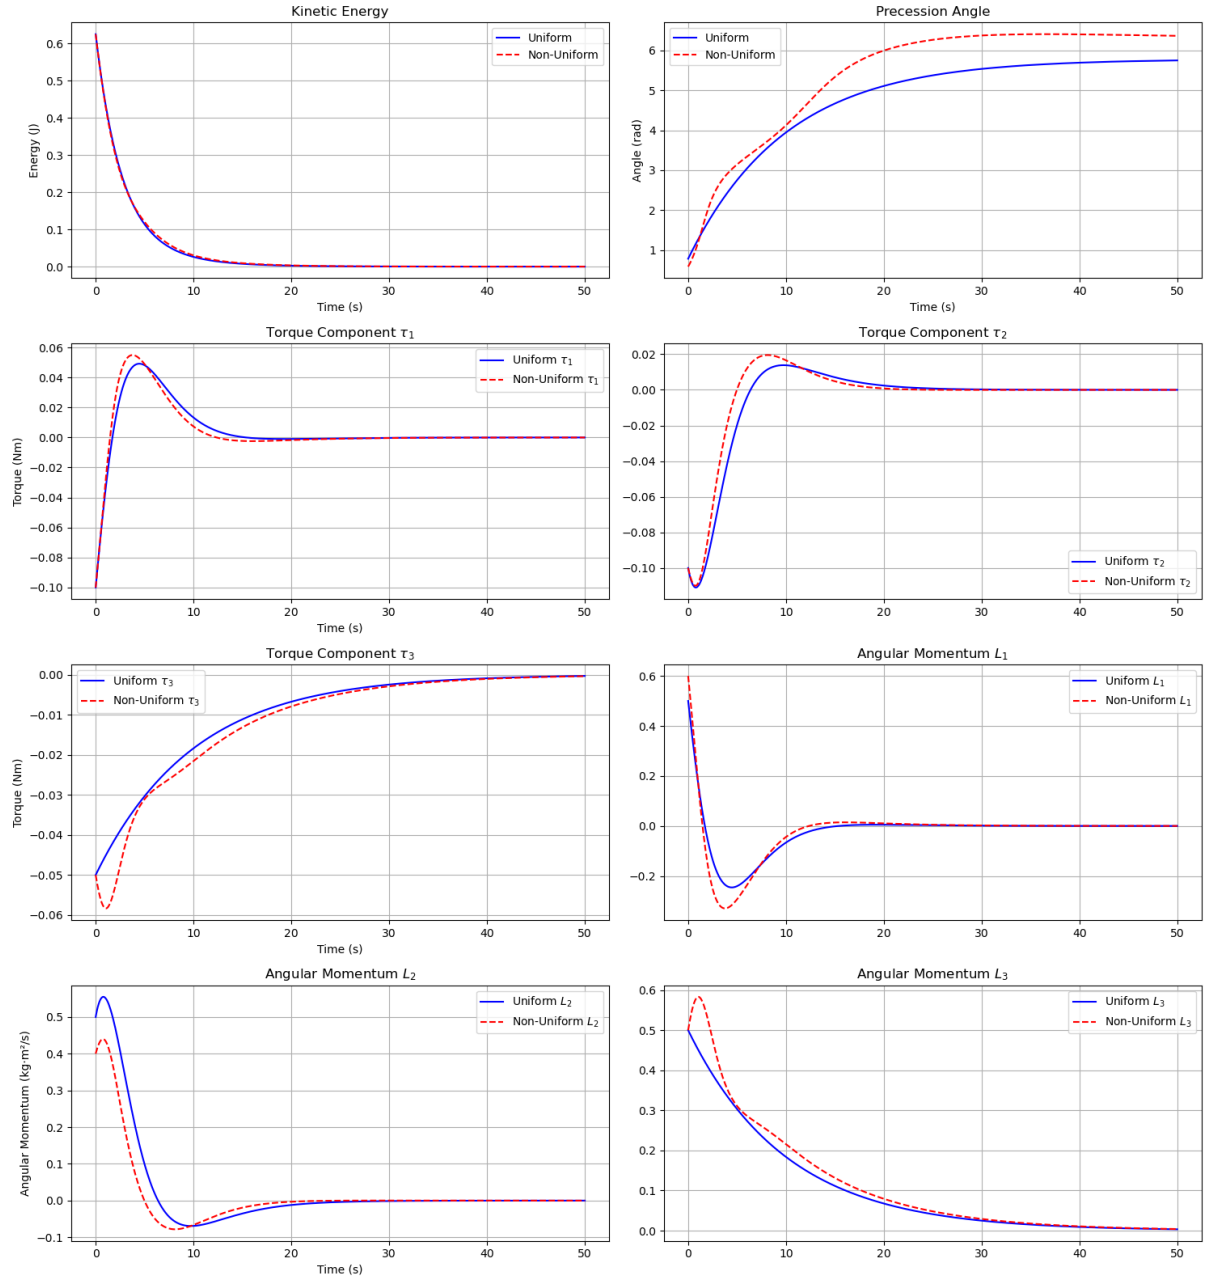

Figure 1: Kinetic energy decay, Precession Angle, Torque and Angular Momentum for uniform (blue) and non-uniform (red) coins.
- **Uniform Coin:** The kinetic energy (Fig. 1, blue curve) decays smoothly because the symmetry ($I_1 = I_2$) eliminates cross-coupling terms between ω_1 and ω_2 in Euler's equations. This symmetry ensures that damping acts uniformly on ω_1 and ω_2 , leading to their rapid exponential decay. The slower decay of ω_3 arises from the larger moment of inertia I_3 , which reduces the damping effect ($\dot{\omega}_3 \propto -k/I_3$).
- **Non-Uniform Coin:** Energy decay (Fig. 1, red dashed curve) exhibits oscillations due to asymmetric moments of inertia ($I_1 \neq I_2$). The terms $(I_2 - I_3)/I_1$ and $(I_3 - I_1)/I_2$ in Euler's equations create persistent coupling between ω_1, ω_2 , and ω_3 , enabling energy exchange between axes. This coupling sustains transient oscillations even as damping dissipates energy.
- **Uniform Coin:** Torque components τ_1, τ_2 (Fig. 1, blue) decay symmetrically because $I_1 = I_2$ ensures identical damping rates ($\tau_i = -k\omega_i$). The slower decay of τ_3 reflects the reduced damping on ω_3 due to $I_3 > I_1$. The decoupling of ω_3 (from symmetry) prevents energy feedback to ω_1, ω_2 , allowing τ_3 to dominate.
- **Non-Uniform Coin:** Asymmetry ($I_1 \neq I_2$) disrupts torque symmetry. τ_1 and τ_2 decay at different rates ($k/I_1 \neq k/I_2$), while τ_3 couples to $\omega_1\omega_2$ via $(I_1 - I_2)/I_3$, leading to erratic fluctuations (Fig. 1, red dashed). The lack of symmetry prevents torque components from stabilizing.
- **Uniform Coin:** The precession angle ϕ (Fig. 1, blue) stabilizes as $L_1, L_2 \rightarrow 0$. With no horizontal angular momentum, the coin spins purely about the symmetry axis (L_3), halting precession. This aligns with the theoretical prediction that symmetric damping eliminates off-axis angular momentum.
- **Non-Uniform Coin:** Persistent coupling prevents L_1, L_2 from vanishing. The ratio L_2/L_1 fluctuates due to unequal moments of inertia, causing chaotic precession (Fig. 1, red dashed). The asymmetry-induced terms in Euler's equations sustain angular momentum exchange, preventing stabilization.
- **Uniform Coin:** Angular momentum components L_1, L_2 (Fig. 1, blue) decay exponentially, leaving L_3 dominant. Symmetry ensures no cross-axis terms in $\dot{\omega}_3$, allowing vertical alignment. The damping torque $-k\omega_3$ only affects the magnitude of L_3 , not its direction.
- **Non-Uniform Coin:** Asymmetry introduces terms like $(I_1 - I_2)\omega_1\omega_2/I_3$ in $\dot{\omega}_3$, preventing L_3 from stabilizing. All components oscillate (Fig. 1, red dashed), reflecting unresolved energy transfer between axes. The lack of a symmetry axis disrupts directional alignment.